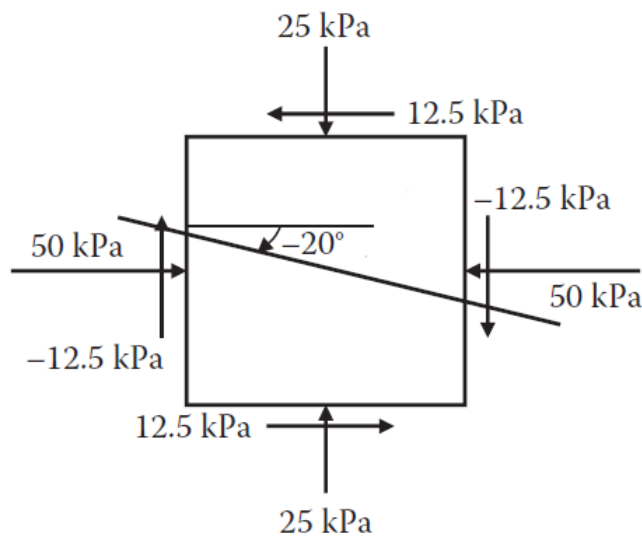

Figure 1
Q1. The stresses acting on a soil element are shown in Figure 1. Draw the Mohr Circle and determine:
- the normal stress, σ_α and the shear stress, τ_α on the plane inclined at an angle $\alpha = -20^\circ$ from the horizontal, as shown in Figure 1.